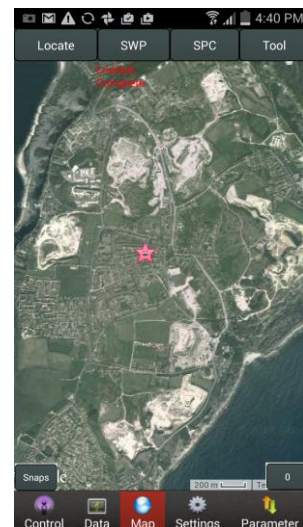

Figure 54
3. Click "SWP" then "OK" the smiley will change into a purple star, as shown in Figure 54.